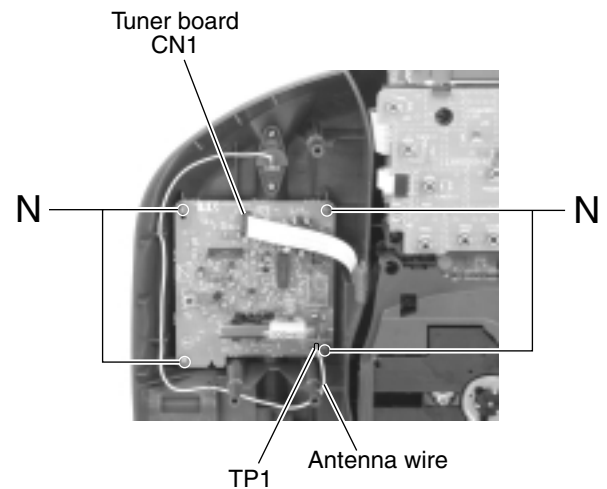

Fig.15
■ Removing the tuner board (See Fig.15)